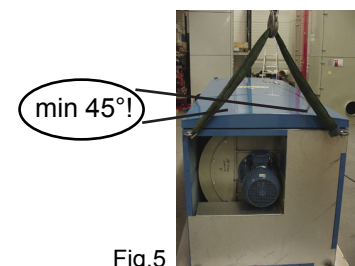

Fig.5
2. When the filter is to be raised, fit the lifting device in the two lifting eyes, as shown in fig. 5. Carefully lift the unit as shown in fig. 6.